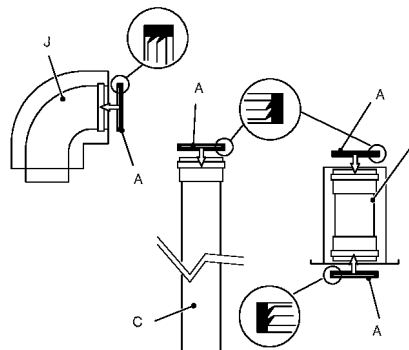

Figure 5
Install the red exhaust o-ring gaskets (A) into each of the vent components female ends as shown in Figure 5. Be sure to install the gaskets so the beveled rings are oriented as shown in Figure 5.